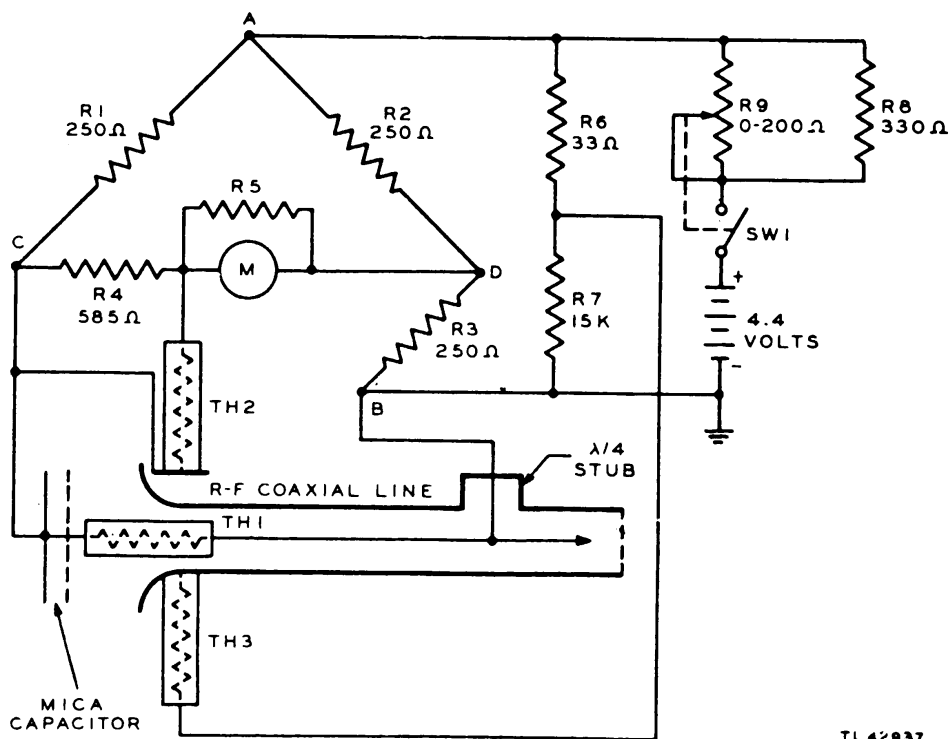

Figure 36. Power Meter TS-125/AP, schematic diagram.
46. POWER METER TS-125/AP (fig. 36).
b. Resistors R1, R2, R3, and thermistor TH1 form the arms of a bridge circuit (fig. 36). The normal or cold resistance of the thermistor is above 250 ohms; therefore, the bridge is unbalanced. When switch SW1 is closed, a current flows from the battery through variable resistor R9 to the bridge where it divides: part of the current flows through R2 and R3, then back to the battery; the other portion of current flows through R1, TH1, and back to the battery. Point C is now positive with respect to point D and the meter will read backwards. The current flowing through TH1 causes TH1 to heat, thereby reducing its value of resistance. When the resistance of TH1 decreases to 250 ohms, the meter will read zero because points C and D are at the same potential.